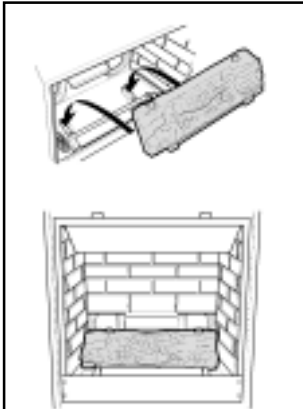

Figure 26
1. Place the base log on the supports in the firebox and against the firebox back. See figure 26.